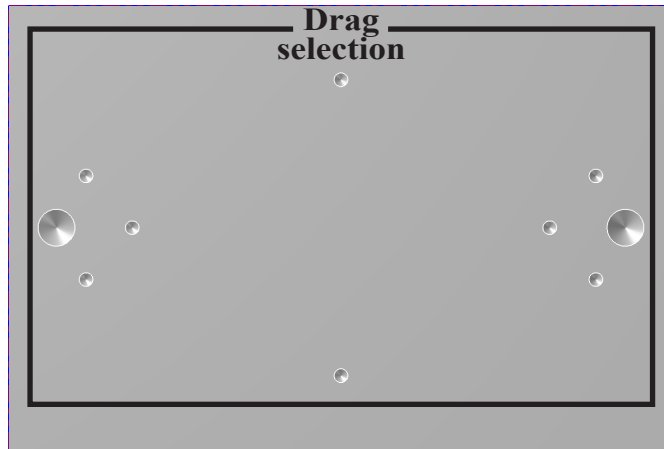

Fig. 19
Step 6. Drag a select around all holes(arcs). Start in the upper left outside the holes(arcs) to surround holes(arcs), **Fig. 19**.